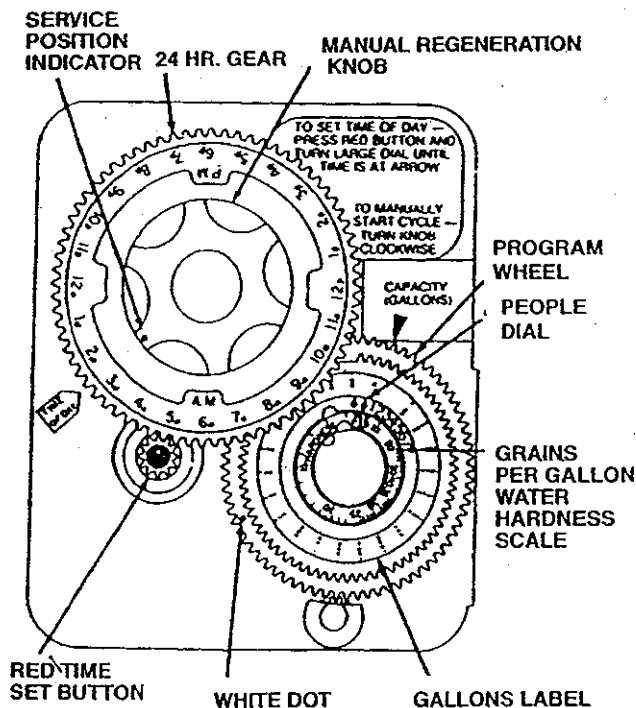

Figure 1
2. The control valve **must be in the SERVICE position!** If needed, rotate manual regeneration knob on timer clockwise until white dot aligns with raised time of day arrow. (See Figure 1.)
1. Locate the program wheel just to the lower right of the manual regeneration knob. (See Figure 1.)
2. Rotate program wheel until the white dot located on the outermost gear is aligned with the capacity (gallons) arrow on the timer. (See Figure 1.)
4. Lift out the "people" dial and rotate it so that the number of people in the family is aligned with the compensated hardness in grains per gallon. The capacity arrow will now be aligned to the gallons of water that will be used between each regeneration as shown on the gallons label located outside the "people" dial. (See Figure 1.) If preferred, the unit can be set by gallons using this procedure. To calculate gallons, divide the grain capacity of the unit by the compensated hardness level. It is then advisable to subtract one day of water usage to provide a reserve. These settings will assure ample soft water for the family and automatically set a reserve capacity into the system.
1. Depress the red button on lower left side of valve timer door. (See Figure 1.)